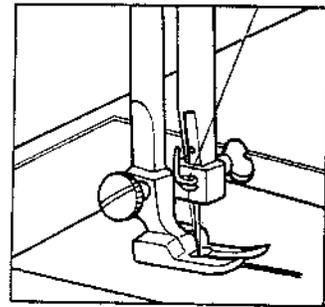

Fig. 23
1. Replace presser foot with buttonhole foot which is grooved deeply underneath to prevent piling up of thread. (See Fig. 23).